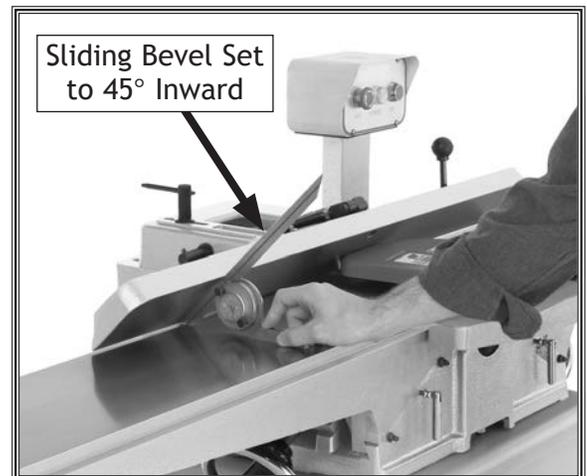

Figure 54. Example of adjusting fence to 45° inward.
3. Place sliding bevel set to 45° against fence and table, as shown in Figure 54.